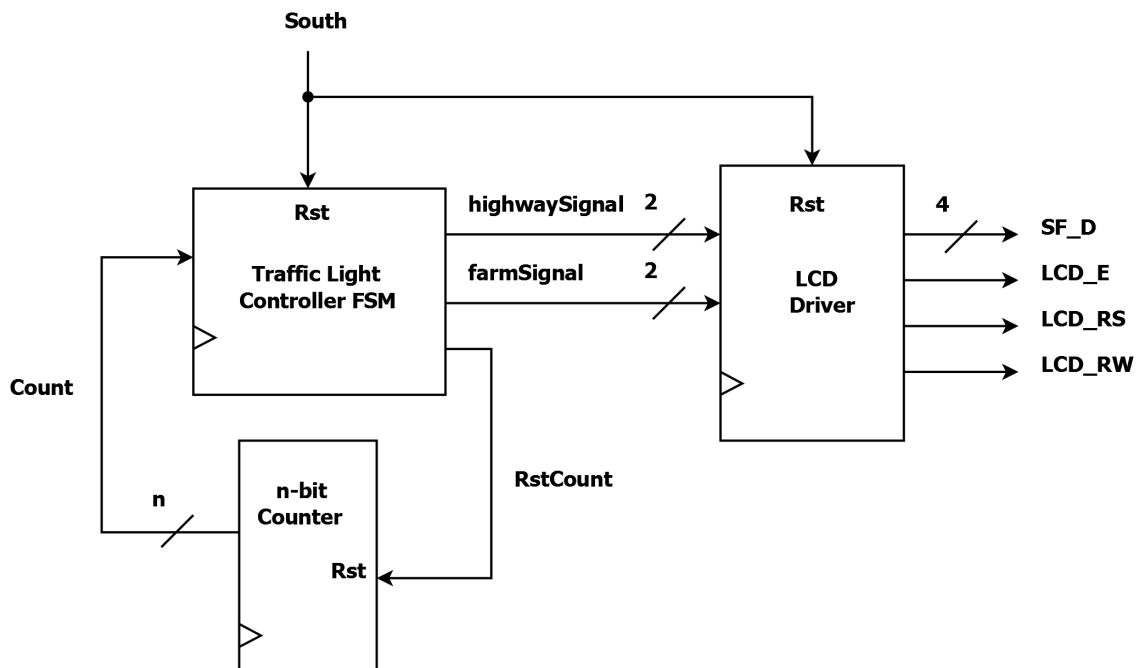

Figure 5: The Initial Traffic Light Controller Circuit
The traffic light controller will be made up of three main components as shown in Figure 5. You will be responsible for describing in Verilog the counter and FSM, while the LCD driver will be provided for you.
2. Based on the column entries you just calculated, what is the necessary value of  $n$  in Figure 5?
- (b) Create a source file called “tlc\_controller.v” and use the Verilog code below as a starting point for describing the circuit in Figure 5.